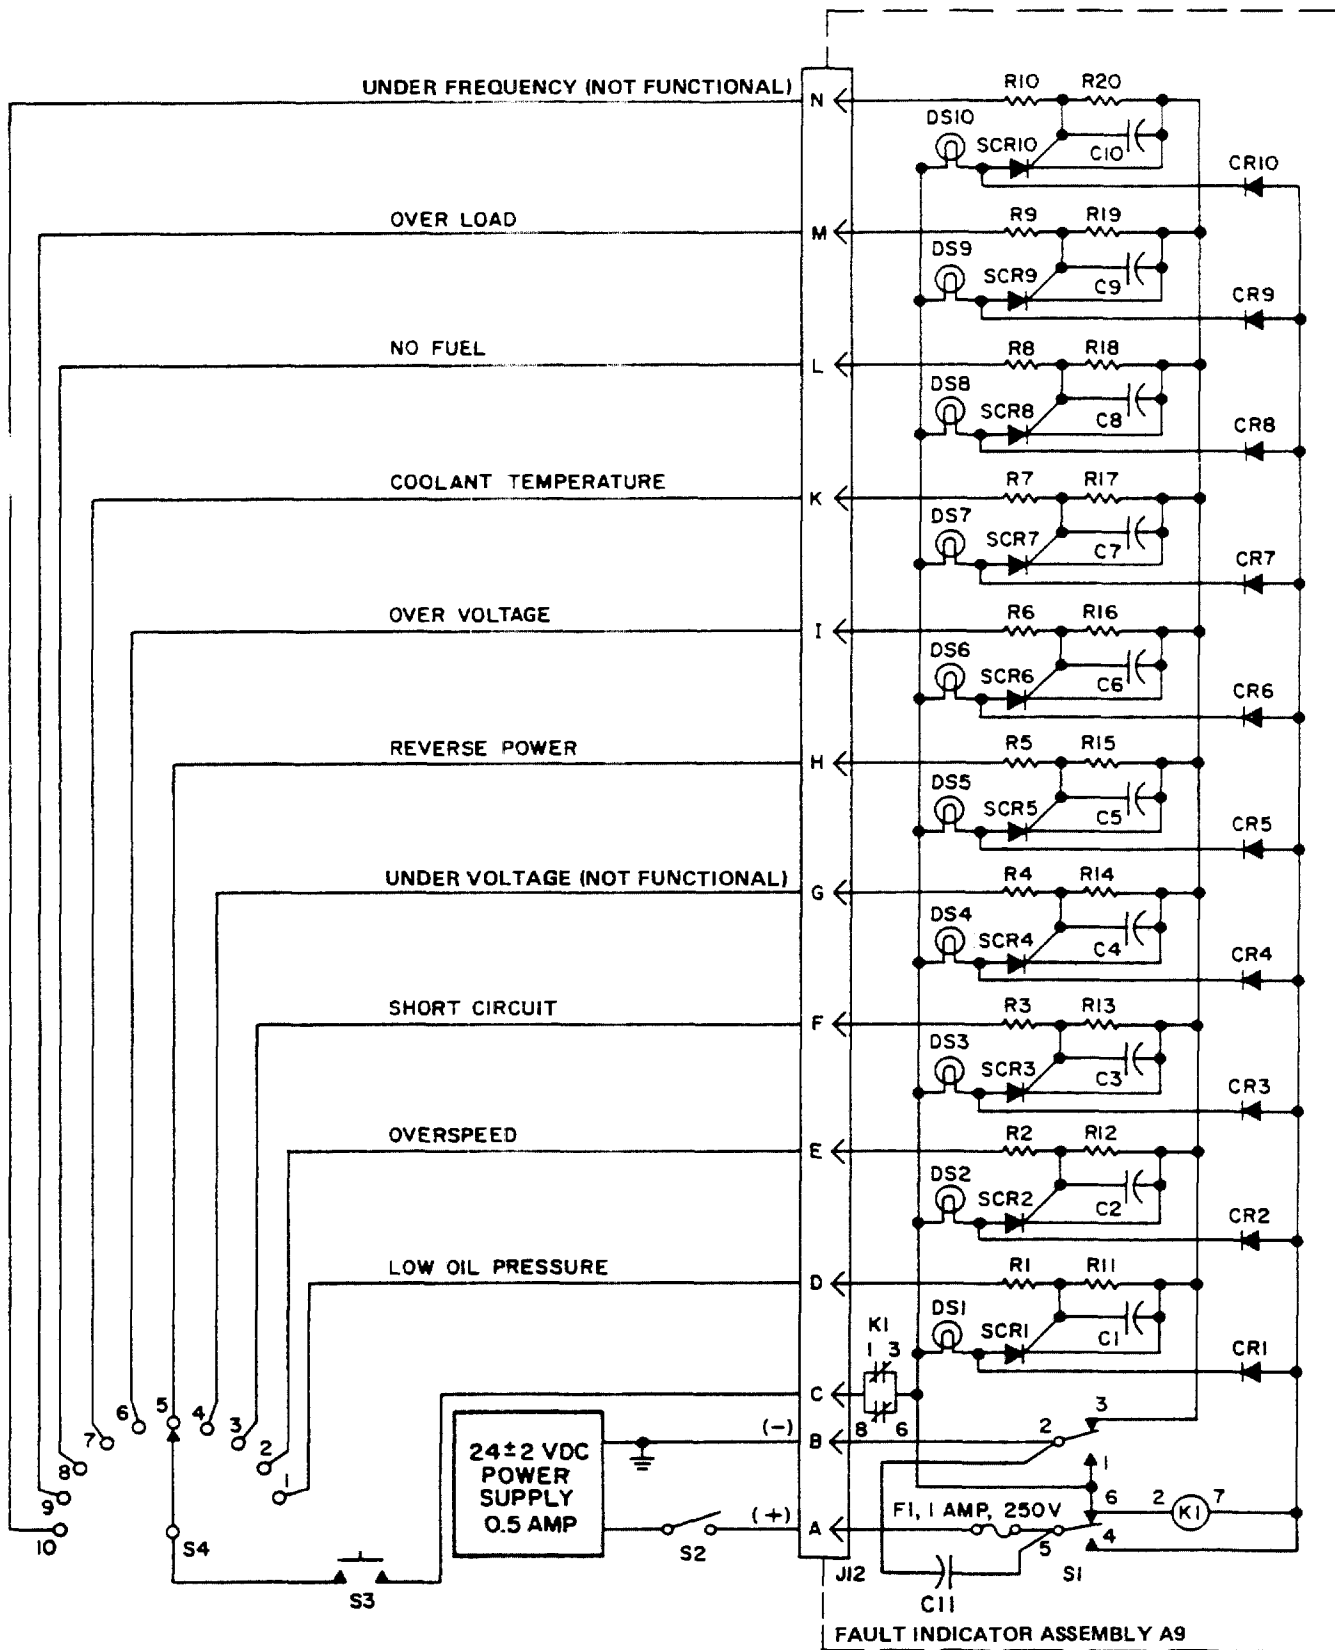

Figure 4-27. FAULT INDICATOR Assembly A9, Test Setup
(1) Remove the FAULT INDICATOR assembly A9 (refer to paragraph 4-42d).
(2) Connect A9 to test equipment as illustrated in figure 4-27 and perform test specified in procedural analysis table 4-4.